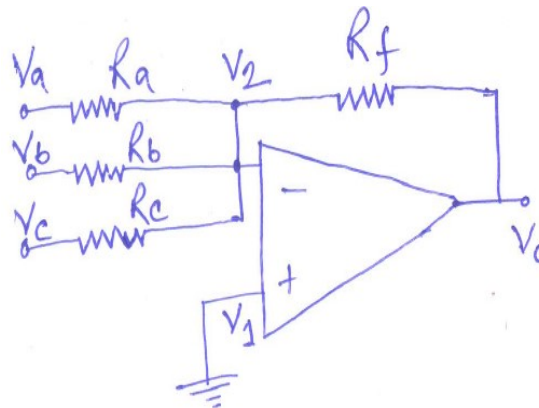

Fig.5.16 Inverting Summer Circuit
- The configuration as shown in following Fig.5.16 can be used as a summing amplifier. Where three input voltages are  $V_a$ ,  $V_b$  &  $V_c$ .  $R_f$  is feedback resistor and the input resistors are  $R_a$ ,  $R_b$ ,  $R_c$ .